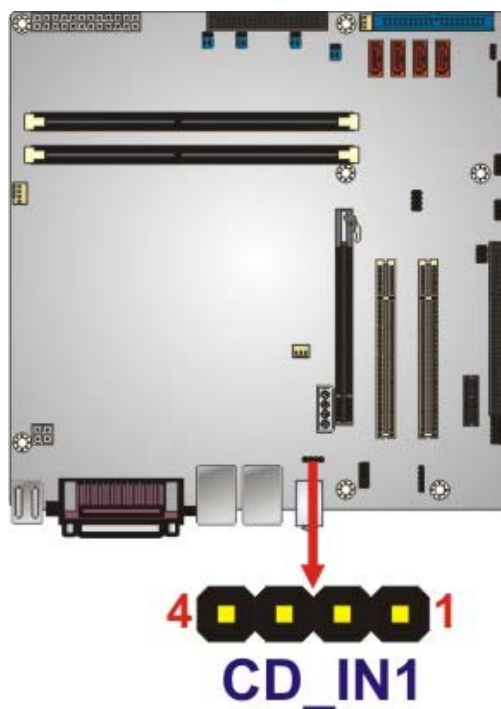

Figure 3-3: Audio CD In Connector Pinouts (4-pin)
- CN Location:** See **Figure 3-3**